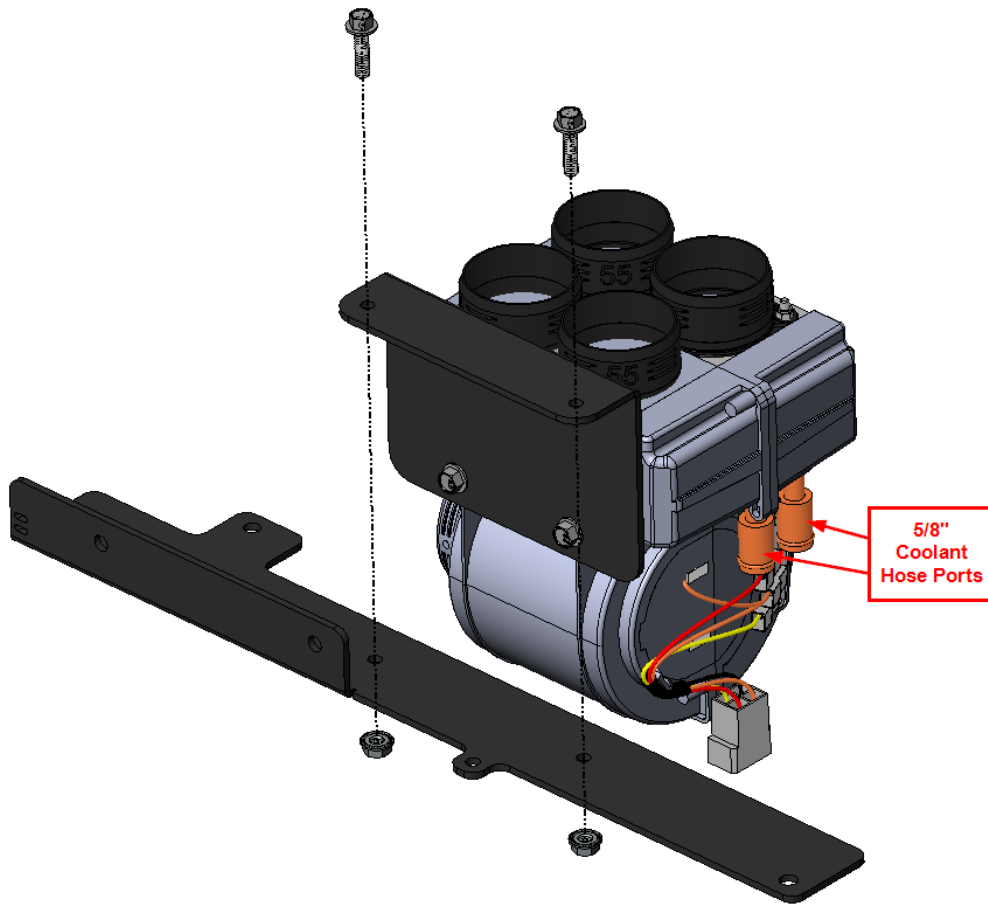

Figure 10
11. Position the Heater unit and right-angle bracket over the center most holes of the replacement metal cross support bracket and secure with 1/4" serrated flange hardware. See Figure 10
12. Connect the 5/8" Coolant Hoses to the 5/8" Coolant Hose ports as shown in Figure 10. Secure the hoses using #10 hose clamps.